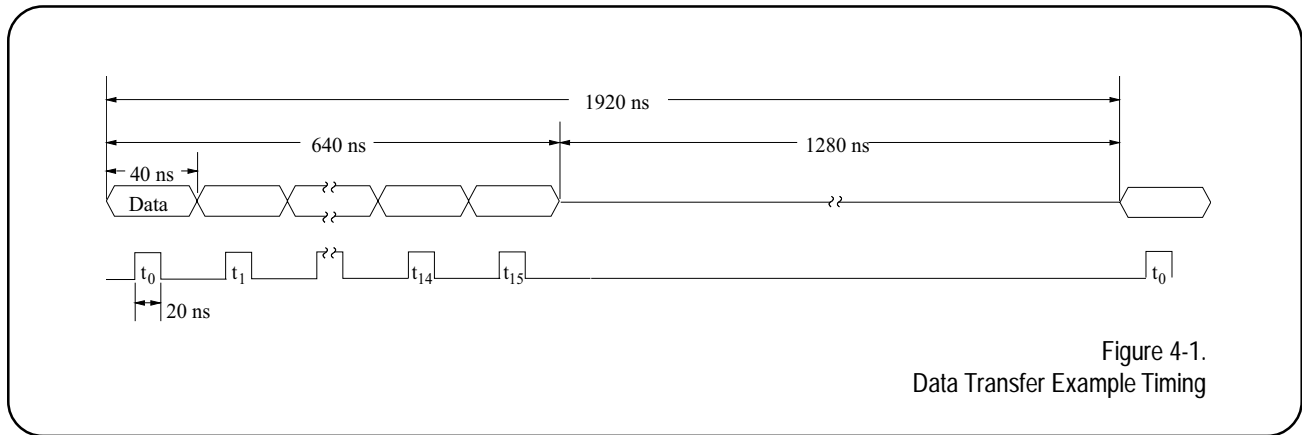

Figure 4-1.
The next example uses a CMACRO program to produce a burst of high speed signals followed by a long dead time. The burst is meant to simulate an asynchronous transfer of data across a communications bus. A single clock pulse is generated for each 16 bit data word transferred and a frame of data consists of 16 data words. The clock uses a *Return-to-Zero* (RZ) format and is placed in the middle of when the data word is valid. After a frame is transferred the bus goes inactive for 2 frame times. Refer to the timing diagram in figure 4-1 for further details.